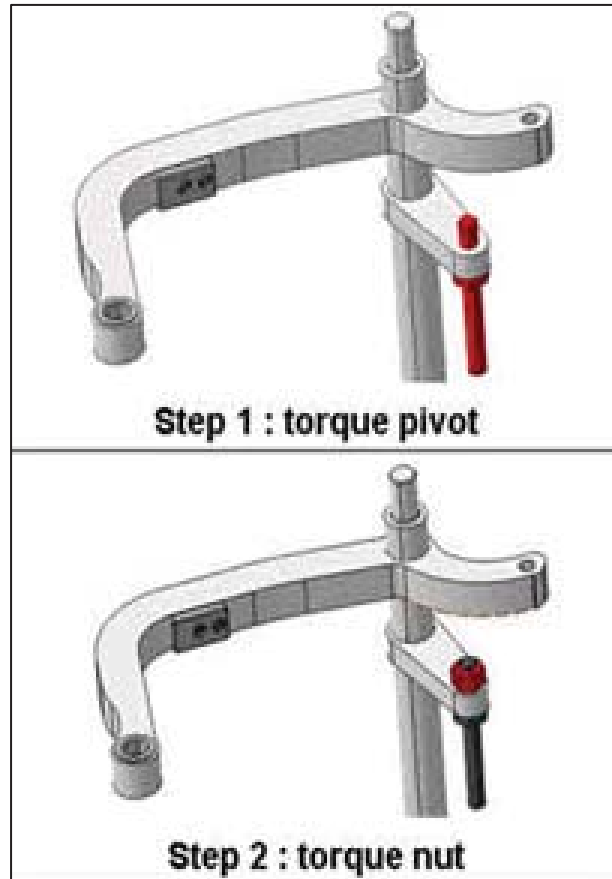

Figure 9
- 7) On the damper pivot, loosen the assembly and re-tighten in the appropriate sequence. (Fig. 9)